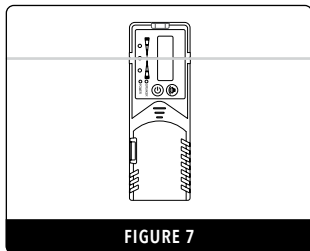

FIGURE 7
- Hold the detector upright for horizontal beams (Fig.7) or rotate 90° for vertical beams (Fig. 8).